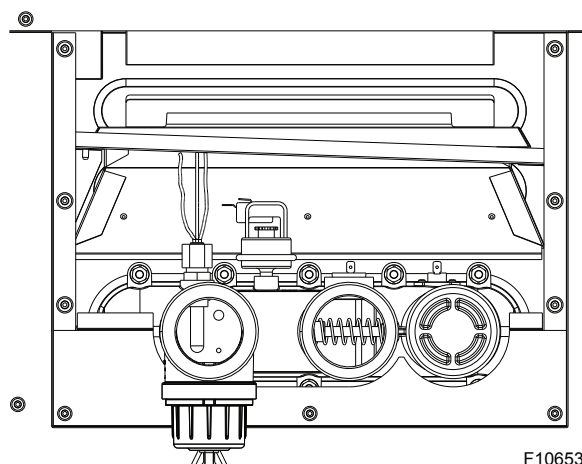

Figure 30. Component Wiring Locations – In/Out Header
2. Disconnect wires at high limit, AGS (automatic gas shut-off), water pressure switch on the in/out header, and ProTek Shield bonding wire. See **Figure 30**.
4. Remove (12) nuts holding the inlet/outlet and return headers to the tube sheets. Clean off tube sheet area where the gasket seats. Also clean off the header and the gasket. Apply a non-petroleum-based lubricant to the gasket such as Aqualube. Re-attach the headers to the opposite sides, making sure they are installed in an upright position. Do not over-tighten. Torque should not exceed 7 ft/lb. See **Figure 30**.